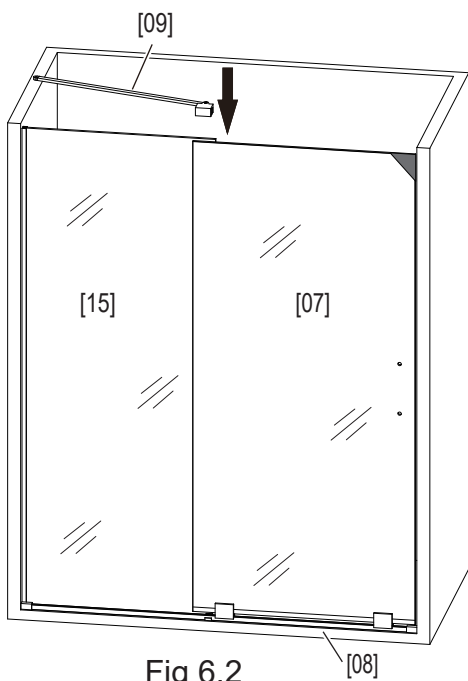

Fig 6.2
2. Hold the **Door [07]** and install the **Support Bar [09]** to the **Fixed Panel [15]** and the **Door [07]**. (Fig 6.2)